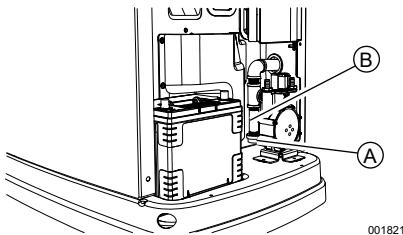

Figure 4-11. Cleaning the Sediment Trap
3. See Figure 4-11. Unscrew and remove cap (A).